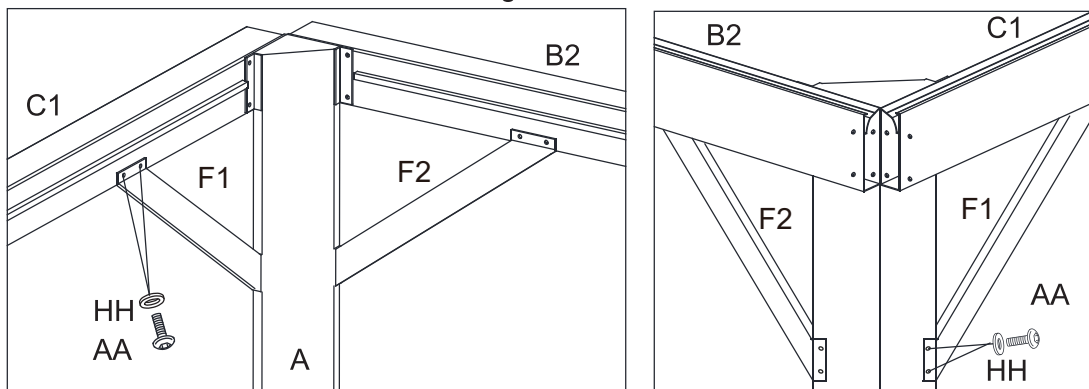

Figure 5.2
5.2. Attach Support Bars (F1F2) to the Corer Post (A) and the Lintels (B1 ,B2and B3) with Bolts (AA) and washer(HH).See Figure 5.2.